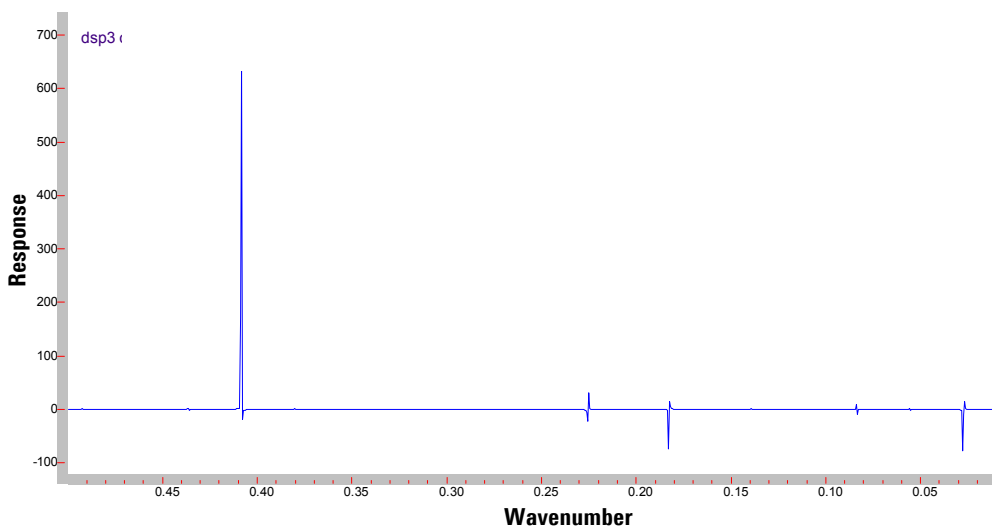

Figure 7. Spectrum of time based raw data for step number 75Error! No bookmark name given.
- 11** In the resulting spectrum, there should be a strong peak at approximately 0.41 as shown in Figure 7. Multiply the peak location by 28571. Subtract this product from 85714. This result is the actual frequency of the PEM. Enter this value for the 'PEM Frequency in Hz' parameter and then click Scan again. This value may be different than the value on the PEM controller display. Note the difference between the calculated value and the displayed value. This difference will be constant.